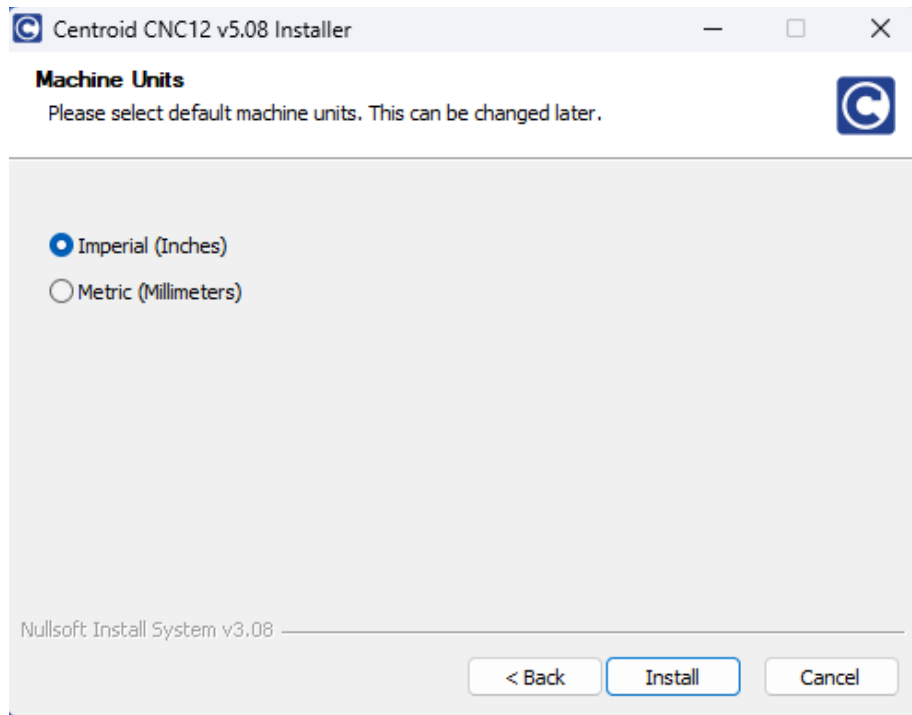

Figure 3.2.6
10. Select Units. Select the default units by CNC12, either “Imperial” or “Metric” (Figure 3.2.6). Click “Install” to begin the installation.